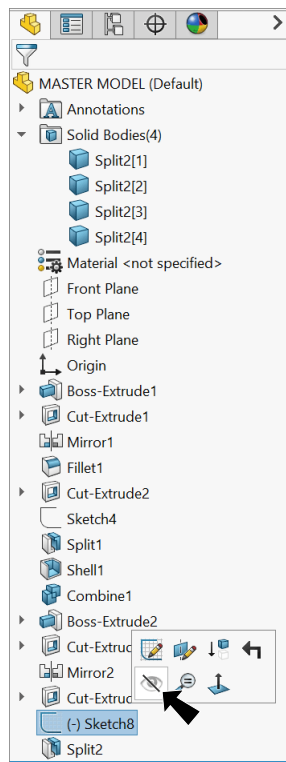

Fig. 67
- Step 2. **Hide Sketch8** . To hide, click **Sketch8**  in the Feature Manager and **Hide**  on the context toolbar, **Fig. 67**.